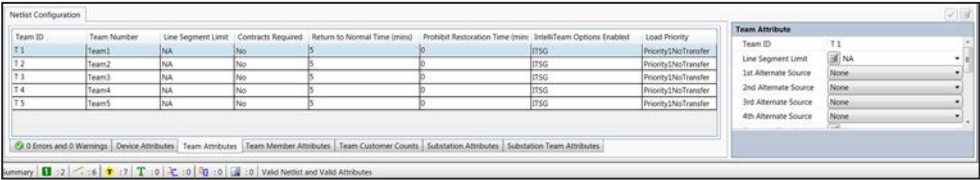

Figure 77. The Team Attributes tab is used for editing team parameters.
- STEP 3.** Click on the **Team Attributes** tab to open the Team Attribute dialog box to the right. See Figure 77.